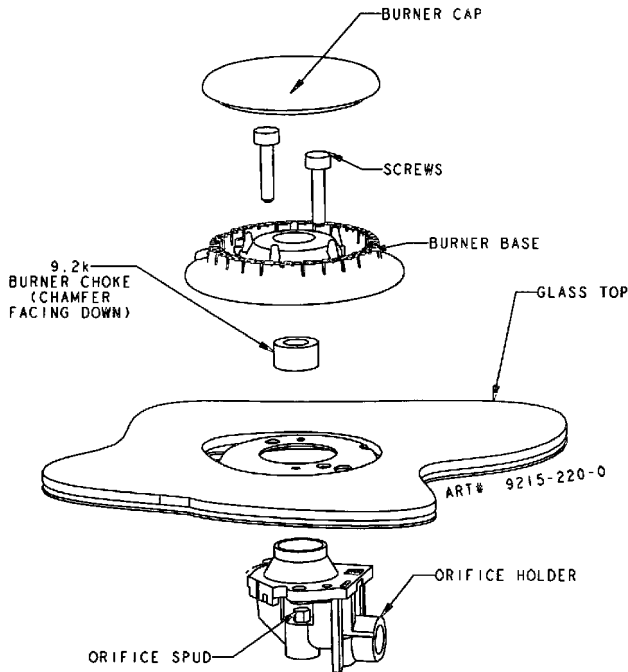

FIGURE 10
**Step 6:** Place 9.2k burner choke(s) into right rear and left front orifice holder with chamfer facing down. (See figure 10).
2. Remove chokes from the left front, center and right rear orifice holder (see figures 10 and 11). As required a simple paper clip can be used to remove the left front and right rear choke.